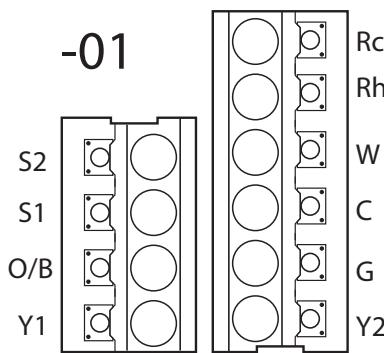

Fig. 3 — Terminal Strip
8. Match and connect equipment wires to proper terminals of the connector blocks (see Fig. 3). If there are separate 24 vac transformers, one in the indoor unit and one in the outdoor unit, connect the common of each to the C terminal. Remove factory-installed jumper wire from Rc and Rh terminals. Connect the R from the indoor unit to the Rh terminal. Connect the R from the outdoor unit to the Rc terminal. Then the W signal is taken from the Rh power and the Y1, Y/Y2, G and O/B signals are taken from the Rc power.